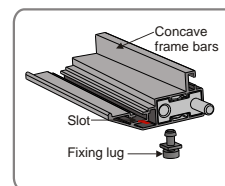

Figure 1
1. Put the fixing lugs into the slots of top and bottom bars, taking the following table as reference. (Figure 1 - 2)